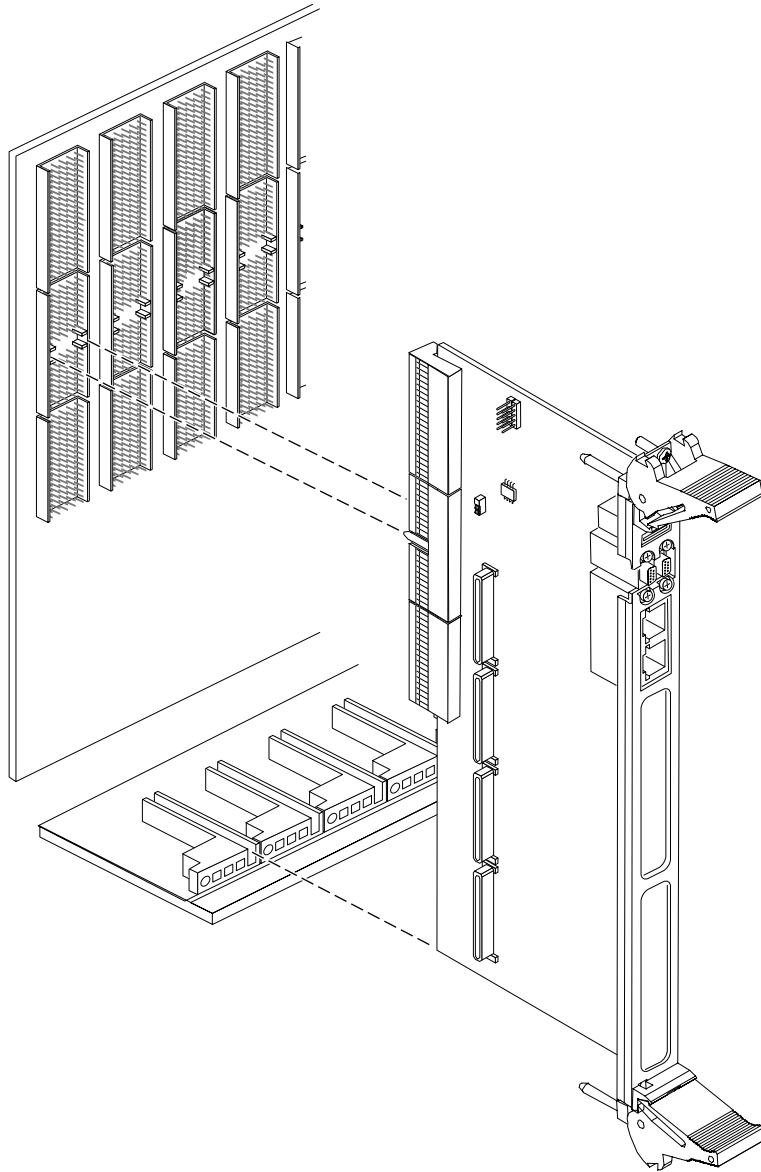

FIGURE 10 Align Transition Card During Installation in Backplane
b. Engage the board edges with the chassis card guides and slide it into the chassis (see FIGURE 10).